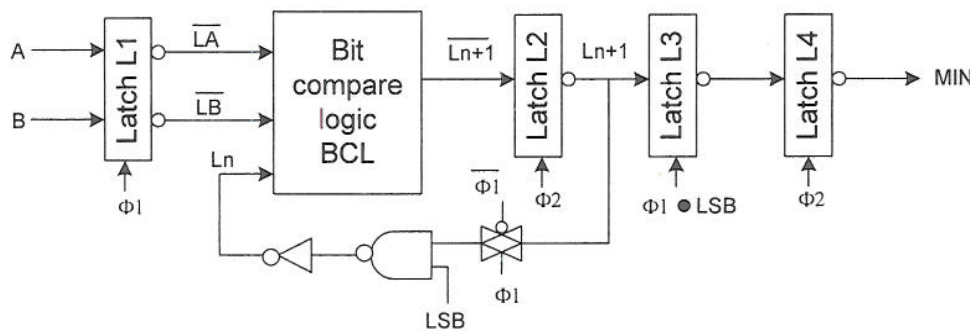

Figure 4.1
4. *Figure 4.1* shows a bit-serial comparator circuit that compares two m-bit unsigned numbers A and B supplied to the circuit bit-serially with the least significant bit first. The output is high only if A>B, and is low otherwise. The LSB signal is high when the least significant bit is supplied. The circuit is driven by non-overlapping two phase clock signals $\Phi 1$ and $\Phi 2$.